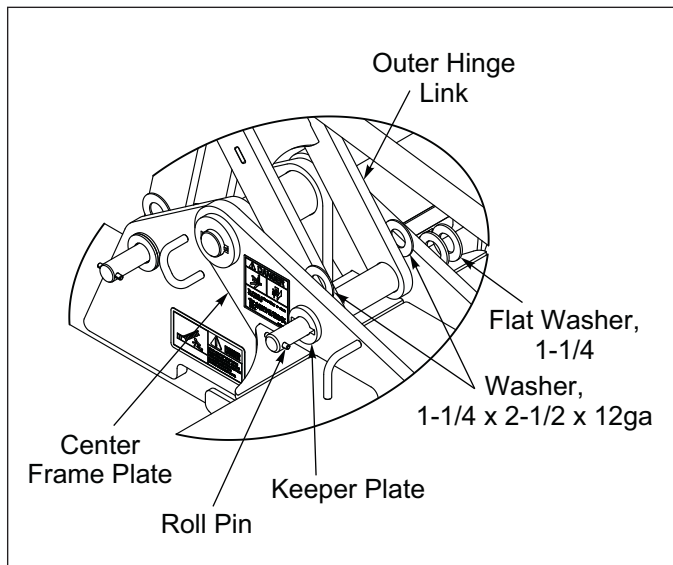
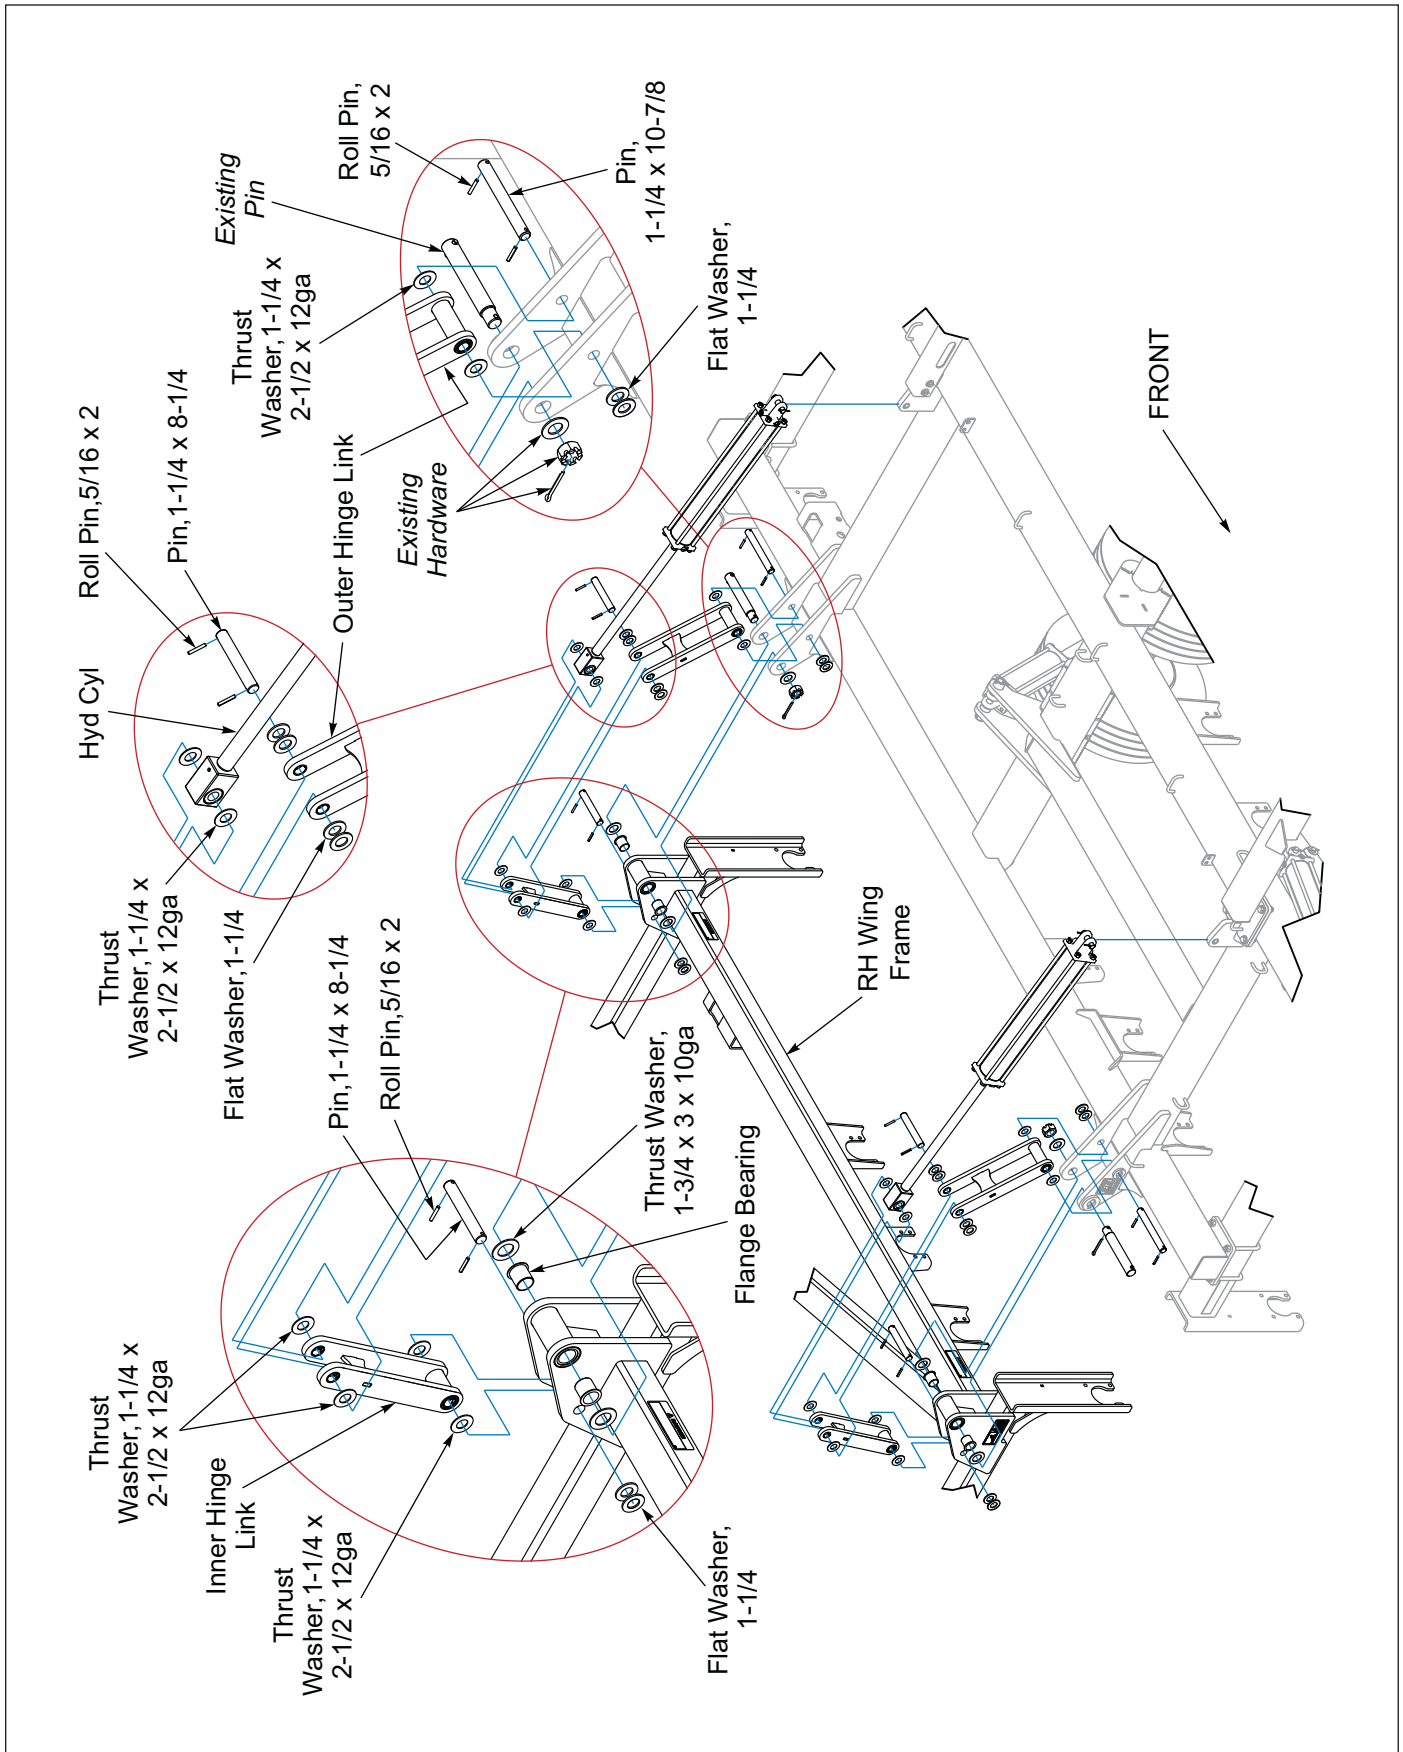

Figure 2-42: Keep Plate
Figure 2-45: Wing Hinge to Frame Installation
1. Insert two Flange Bearings into each Wing Frame Hinge. Remove existing Pin and Hardware from Center Frame Hinge Lug. Position the Wing Frame Hinges between the Center Frame Hinge Lugs and align the holes. Once positioned place one 1-3/4 x 3 x 10ga Thrust Washer between each Wing Frame Hinge and Center Frame Hinge Lug. Thrust Washer should be against the Flange Bearing. Secure by Re-installing Pin and Hardware. **See Figure 2-45.**
3. Place the Outer Hinge Link End with the bushing between the Center Frame Hinge Plates. **See Figure 2-45.** Slide a 1-1/4 x 2-1/2 x 12ga Thrust Washer between the Outer Hinge Link and the Center Frame Hinge Plates. Insert 1-1/4 x 10-7/8 Pin into the side of the Center Frame Hinge Plate with the Keeper Plate so the Roll Pin fits into the slot. **See Figure 2-42.** Place two Flat Washers on the end of the Pin. Secure with 5/16 x 2 Roll Pin.
4. Place the Inner Hinge Link End with the bushing between the Wing Hinge Frame Plates. Slide a 1-1/4 x 2-1/2 x 12ga Thrust Washer between the Inner Hinge Link and the Wing Frame Hinge Plates. Insert 1-1/4 x 8-1/4 Pin into the side of the Wing Hinge Plate with the Keeper Plate so the Roll Pin fits into the slot. **See Figure 2-42.** Place two Flat Washers on the end of the Pin. Secure with 5/16 x 2 Roll Pin.